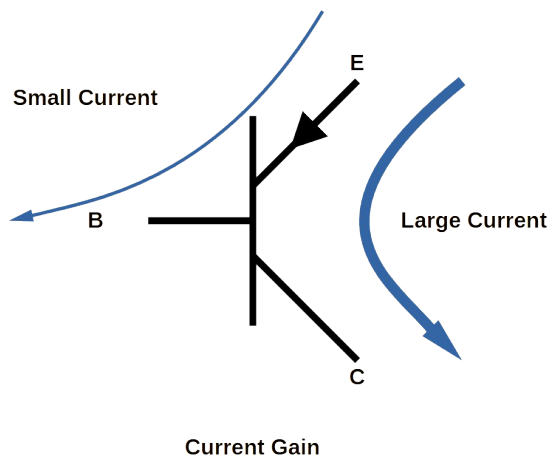

Figure 32: PNP Transistor Current Gain
- ii. In a PNP transistor, current flows into the Emitter and out of the Base and Collector as shown in Figure 32